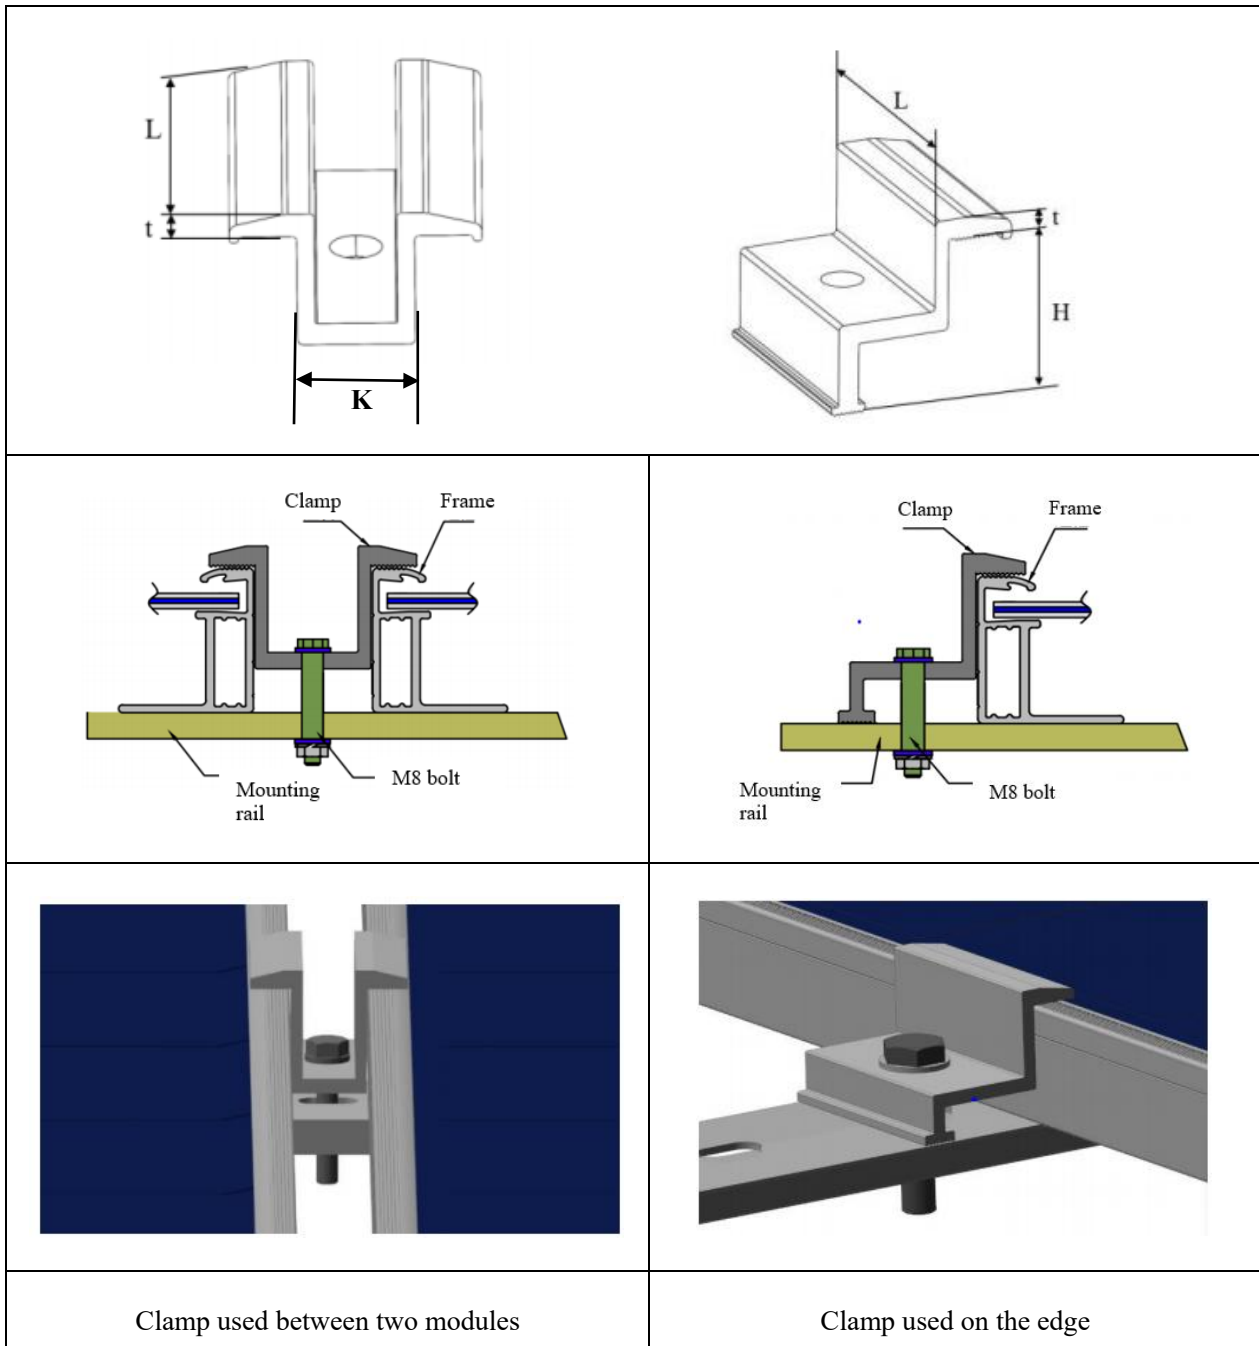

Fig. 15 Diagrammatic sketch of installation with clamps
- Clamps with two or more sizes of K (see Fig. 15) can be prepared. These clamps with different sizes of K can be used in an alternating or intermittent manner to eliminate the impact of the accumulated tolerance.